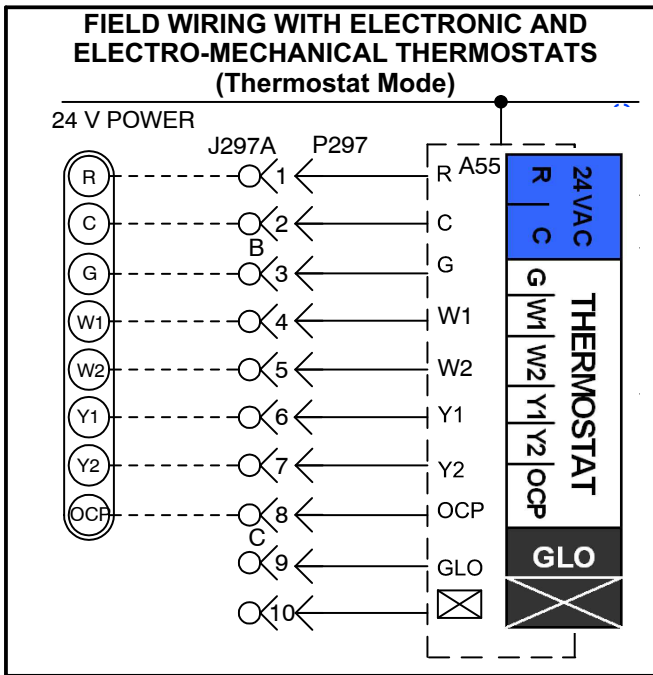
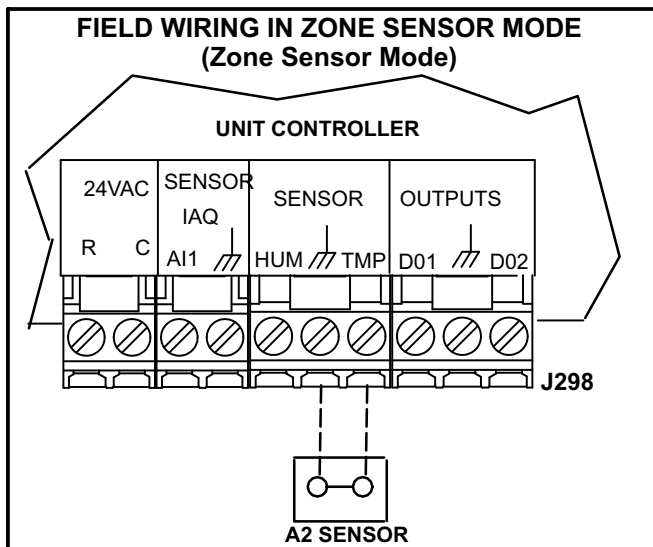
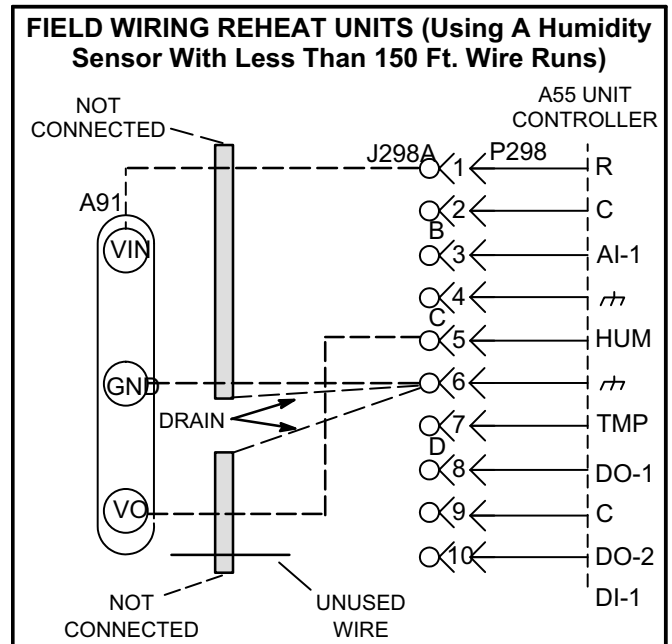
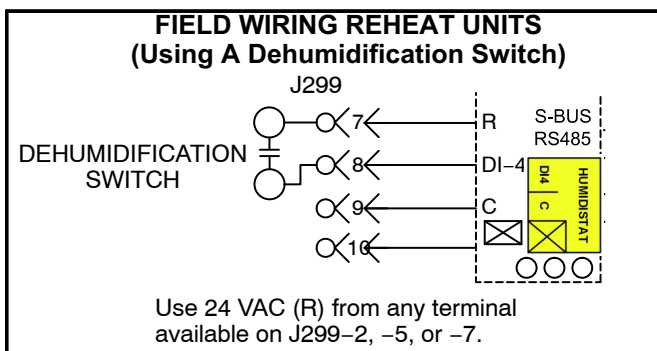

FIGURE 8
FIGURE 9
FIGURE 10
FIGURE 12
The Unit Controller will operate two stages of heating and cooling based on thermostat demands. Install thermostat assembly in accordance with instructions provided with thermostat. See figure 8 for field wiring and refer to wiring diagrams on unit.
The Unit Controller will operate heating and cooling based on the Unit Controller internal setpoints and the temperature from the A2 zone sensor. An optional Network Control Panel (NCP) can also be used to provide setpoints. A thermostat or return air sensor can be used as a back-up mode. Make zone sensor wiring connections as shown in figure 9.
- 2- Make wiring connections as shown in figure 8 for Thermostat Mode and figure 9 for Zone Sensor Mode. In addition, connect either a humidity sensor or a dehumidification input. See figure 10 or 11 for humidity sensor wiring and figure 12 for dehumidification input wiring.
Use two separate shielded cables containing 20AWG minimum, twisted pair conductors with overall shield. Belden type 8762 or 88760 (plenum) or equivalent. Connect both cable shield drain wires to TB1-7 as shown in figure 10.
Use two separate shielded cables containing 18AWG minimum, twisted pair conductors with overall shield. Belden type 8760 or 88760 (plenum) or equivalent. Connect both cable shield drain wires to TB1-7 as shown in figure 10.